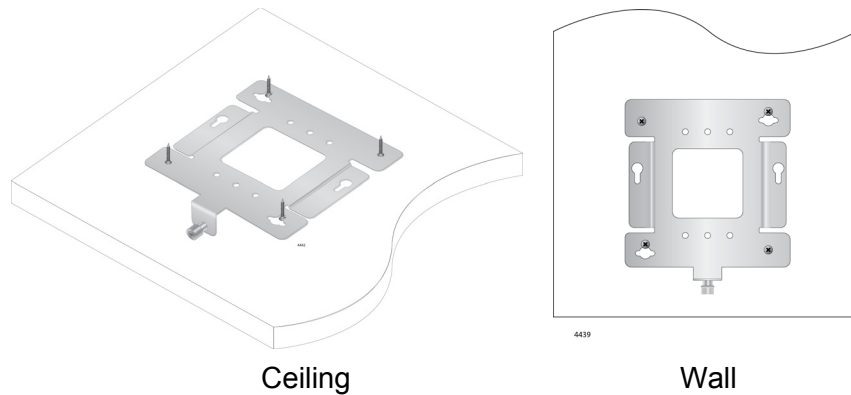

Figure 11. Stationary Bracket Position
6. Install and tighten two M4 screws (not provided) in the holes prepared in Step 5. The physical position of the bracket is now stationary. Refer to Figure 11.